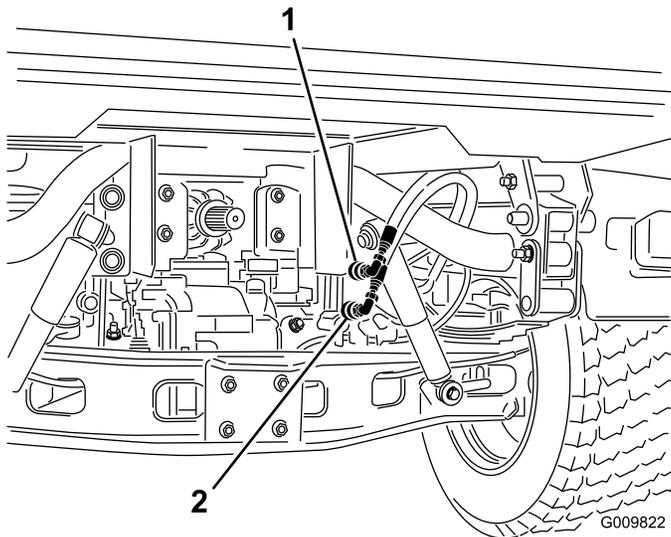

Figure 66
2. On both machines, disconnect the 2 quick coupler hoses from the hoses secured to the coupler bracket (Figure 66).